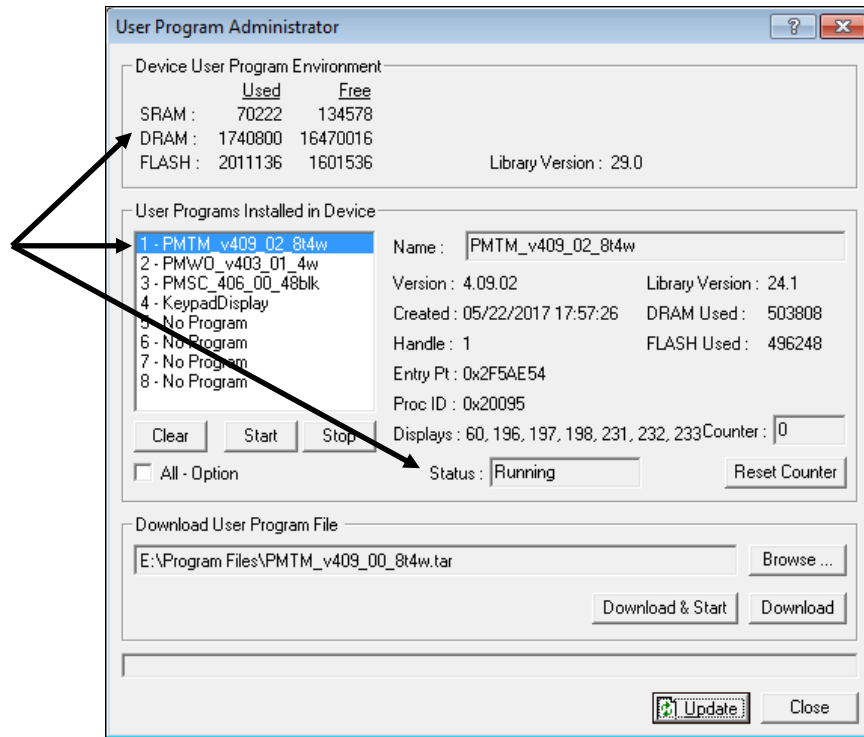
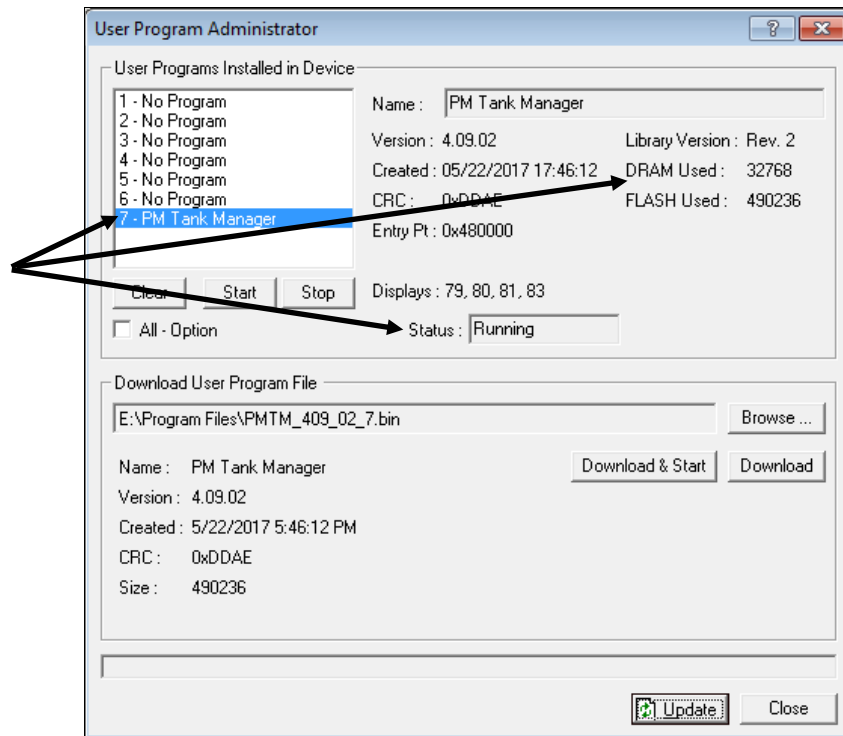

Figure 2-10. User Program Administrator (for ROC800)
Figure 2-10a. User Program Administrator (for FB107)
10. Click **OK**. The User Program Administrator screen displays [see *Figure 2-10 (for ROC800) / Figure 2-10a (for FB107)*]. Note that: